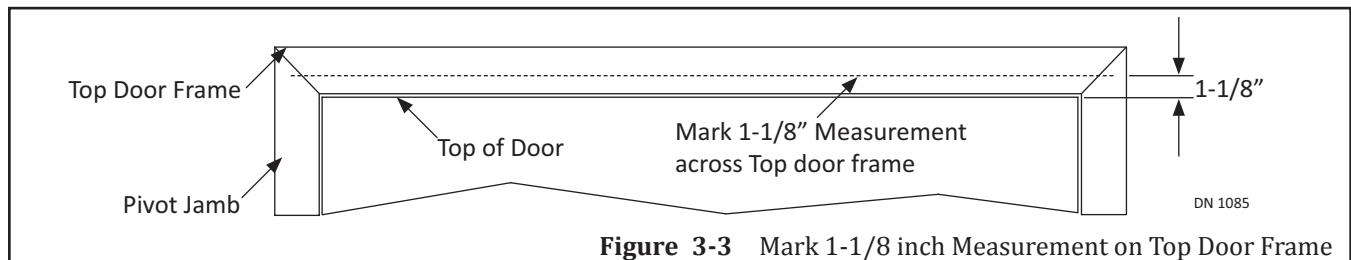

Figure 3-3 Mark 1-1/8 inch Measurement on Top Door Frame
2. Mark a Horizontal Line on the face of the Top door frame, at both ends. Please see Figure 3-3.